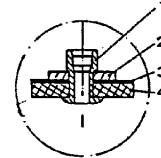

Figure 3
4. Align aluminum air guide plate with protection plate and install a 6mm bolt with nut in location A1. Install rivet with washer (Figure 3) in location A2. Refer to Figure 4 for location identification.
7. Drill 5mm holes in marked locations and deburr. Install rivets with washers (Figure 3).